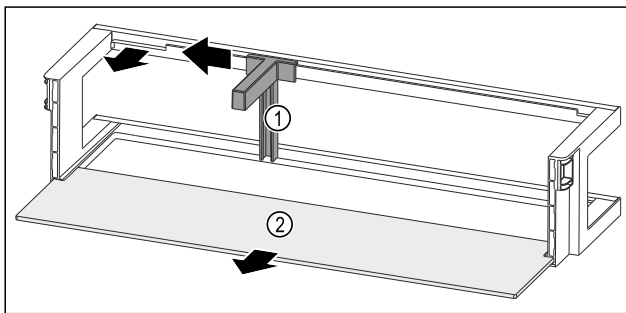

Fig. 133 Door rack with bottle holder and shelf
- ▶ Slide the bottle holder Fig. 133 (1) to the side as far as the recess.
- ▶ Remove the bottle holder Fig. 133 (1).
- ▶ Remove the shelf Fig. 133 (2).